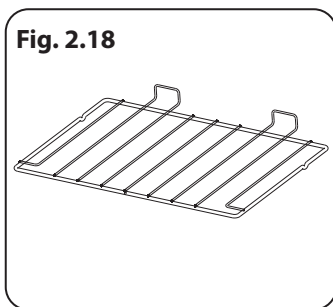

Fig. 2.18
- 1 standard shelf (**Fig. 2.18**)